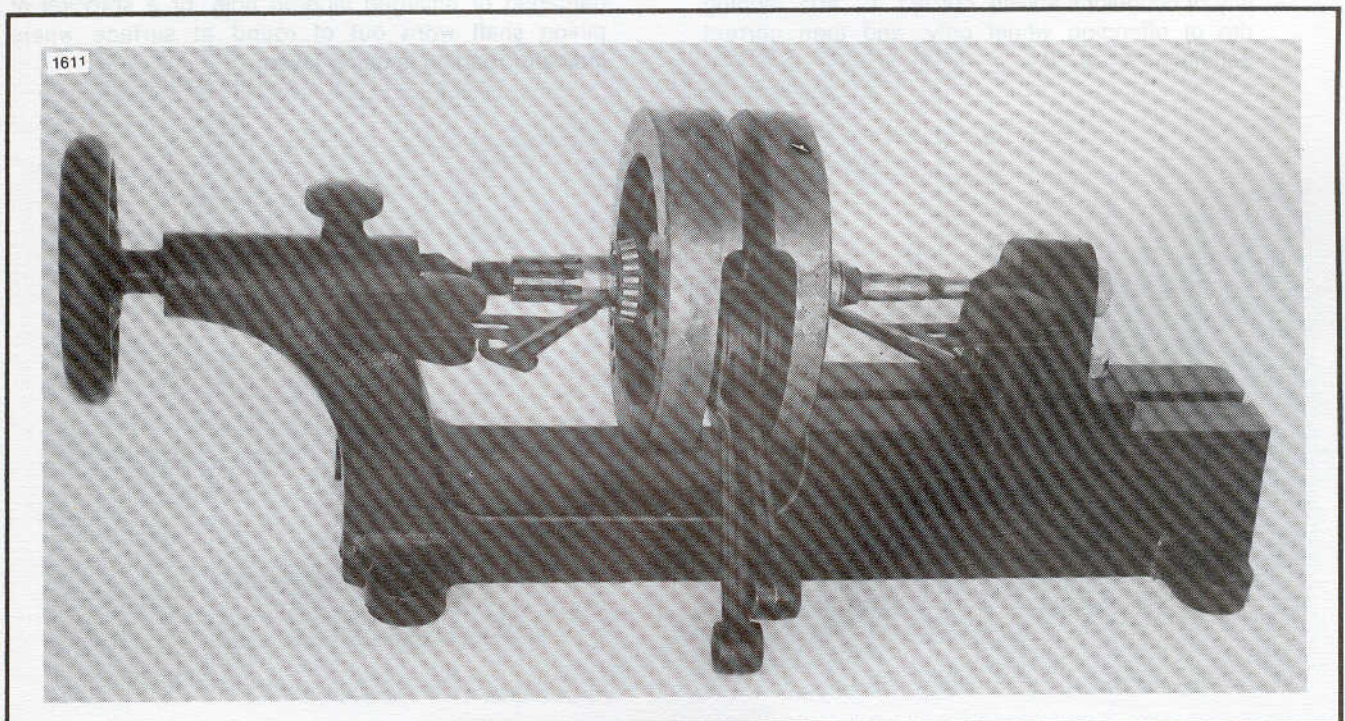

Figure 3-65. Flywheels on Truing Stand
8. See Figure 3-65. When nut is tightened to 180 ft-lbs torque, install flywheel assembly in FLYWHEEL TRUING STAND, Part No. HD-96650-80. Tighten, then back off, adjusting so centers are snug but wheels rotate under weight of rods.